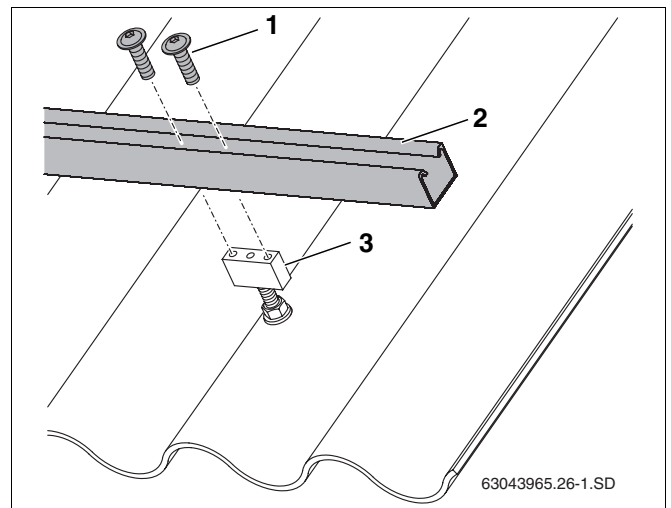

Fig. 25 Fastening the profile rail to the holding bracket
- ▶ Fasten each profile rail (Fig. 25, **Item 2**) with two bolts (Fig. 25, **Item 1**).